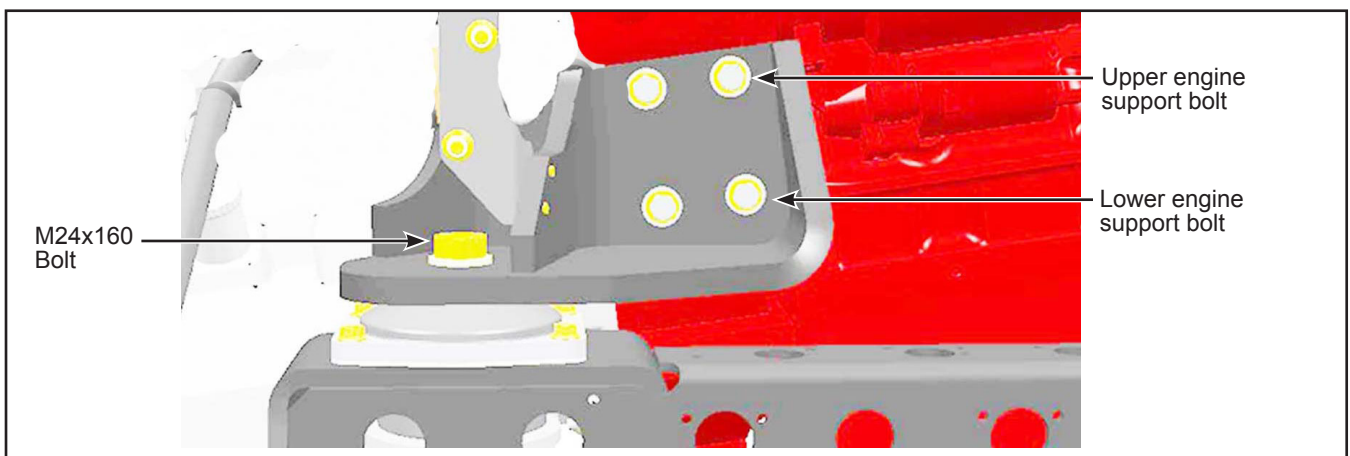

Figure 6 - Engine Support Bolts
- 1.9. Remove the M24X160 bolts and nuts. See Figure 6. Retain the hardware.
1.10. Remove and dispose of the bolts and lock washers of the engine supports. See Figure 6.